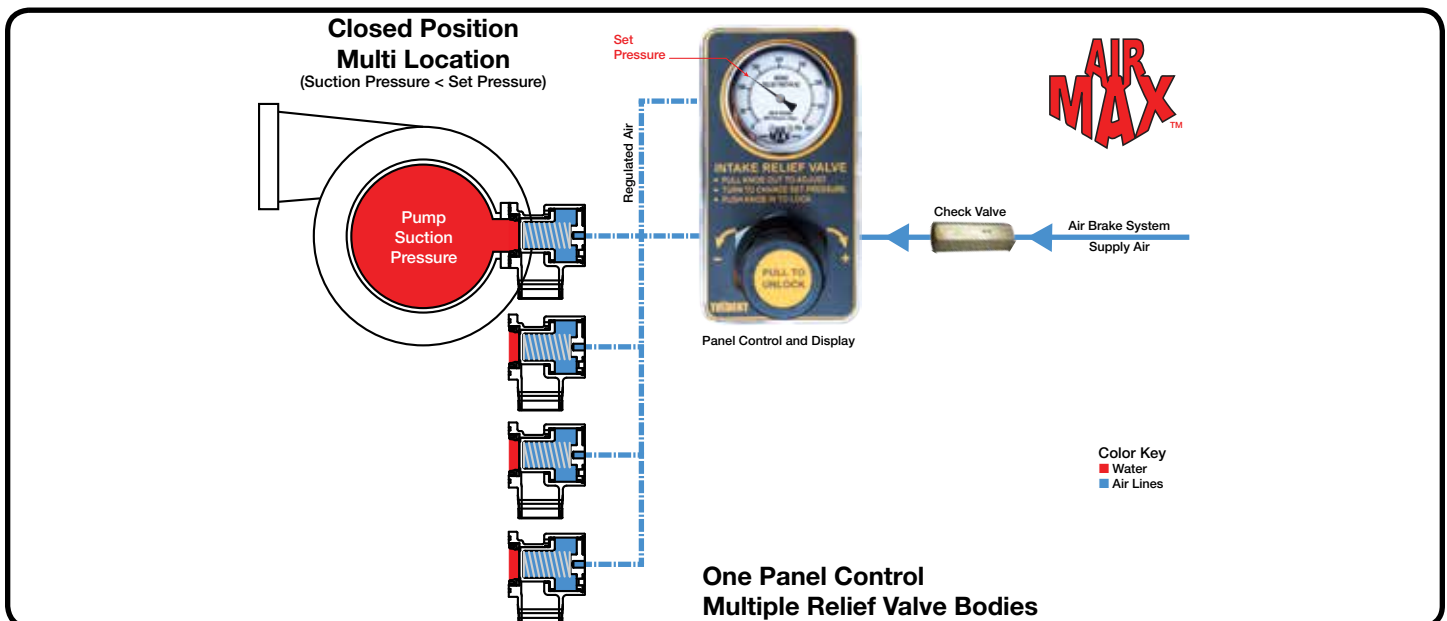

Figure 8
A single AirMax control can be used with more than one (1) relief valve as shown in Figure 8 on Page 5 for Multi Location control.
8. Multiple Location AirMax relief valves can be utilized using a single panel control for many relief valves in various locations on the truck. These are mounted as described in Step 1 on the previous page and have the control lines daisy-chained as shown in Figure 8 below.